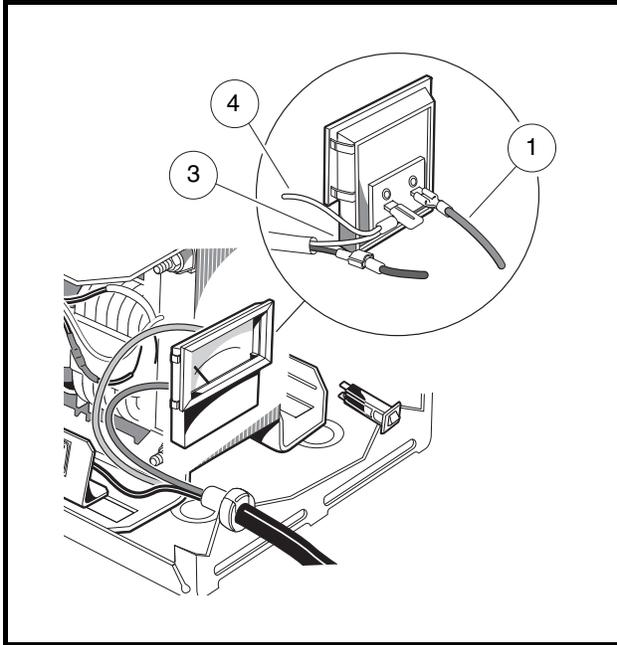

Figure 5-20 Ammeter
3. Disconnect the DC cord red wire (1) and the white wires (3 and 4) from the ammeter (**Figure 5-20, Page 5-27**).
1. Place the ammeter in position in the charger face and ensure that the locking tabs are secure (Figure 5-20, Page 5-27).
2. Connect the DC cord red wire (1) and the white wire (3) to the ammeter terminals.
3. Disconnect the white wires (3 and 4) from the ammeter (Figure 5-20, Page 5-27).